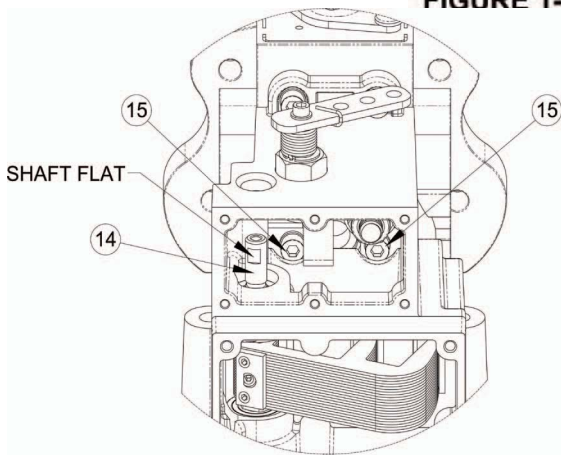
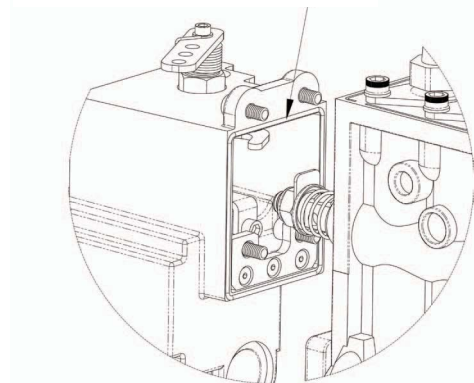

FIGURE 1-3 LOWER COVER AND LEVER ASSEMBLY NOT SHOWN FOR CLARITY
FIGURE 1-4
2. Remove the upper actuator cover (8) and o'ring seal (25). Clean the actuator to pump adapter mounting surface so that it is free of any debris. Insert two M6 X 16 mm long screws (15) and spring washers (16) through the lower mounting holes inside the upper actuator cavity (see Figure 1-3). Align the gasket (29) as shown in (Figure 1-4) and install it over the two screws and carefully slip the actuator over the fuel rack assembly until the two lower screws just start to meet the fuel pump mounting holes. Insert a ball end hex wrench through the access point located on the operating lever (17), to tighten the left lower mounting screw (15) a few turns. Pull the operating lever outward and slide the ball end hex wrench into the space between the operating lever and the access point in the housing of the actuator to tighten the right lower mounting screw. Alternate the turning of each screw so that the actuator is aligned properly with the pump adapter plate. Once these two screws are fully engaged (do not tighten at this time) into the pump housing, insert two additional M6 X 16 mm long screws (15) and spring washers (16) into the top two mounting holes of the actuator and thread into the pump housing. Torque all four mounting screws to 5-6
3. Carefully loosen screw (11) and (20) over the slotted portion of the adjustment plate so that the operating lever bearing assembly (21) can be moved away from the fuel rack connection link. Ensure that the fuel rack is as far out of the pump as possible. Rotate the operating lever (17) out from the actuator until it stops (the armature of the actuator will be in contact with the lower cover (9)) and hold in this position. Rotate the adjustment plate and lever bearing assembly (21) in towards the fuel rack so that contact between the bearing and rack connection link is made. Continue to push in an additional 1 to 2 mm. While holding this position torque the operating lever assembly shaft screw (11) and screw (20) to 4-6 NM.
4. Inspect the assembly to ensure all screws are tight and the fuel rack moves smoothly without any binding. Push in the fuel rack manually to the full fuel position and rotate the fuel shut off lever (22) to minimum fuel to confirm that the shut off lever contacts the metal plate (6) on the fuel rack connector assembly and forces the fuel rack to minimum position.
5. The operating lever has a maximum fuel adjustment set screw (23) which can be used to restrict the fuel rack travel.